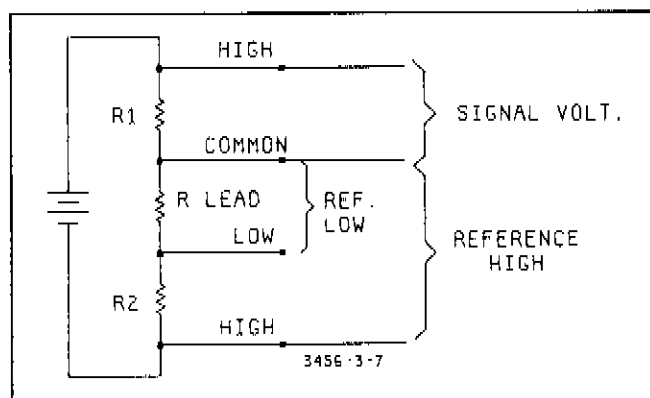

Figure 3-7. Typical Ratio Measurement.
c. Typical Ratio Measurement. Matching resistor values for an accurate voltage divider is one way to use the 3456A's Ratio feature. Try this by using the set up in Figure 3-7. Connect the instrument as indicated in the figure. Make sure that **REFERENCE LOW** is connected at the top of R2 and that **Signal (Volts) Common** is connected at the bottom of R1. Once the instrument is connected and placed in the DCV/DCV Ratio mode, a Ratio Measurement is made. The voltage drop across R1 and R2 is measured including any offset voltages between **Signal Common** and **Reference Low**. The offset voltage is used to compensate for any error causing voltages between the input and resistors. Once all the measurements are taken, the Ratio Measurement is displayed on the front panel. If the resistors are equal in value, the reading should be approximately "-1.00000".